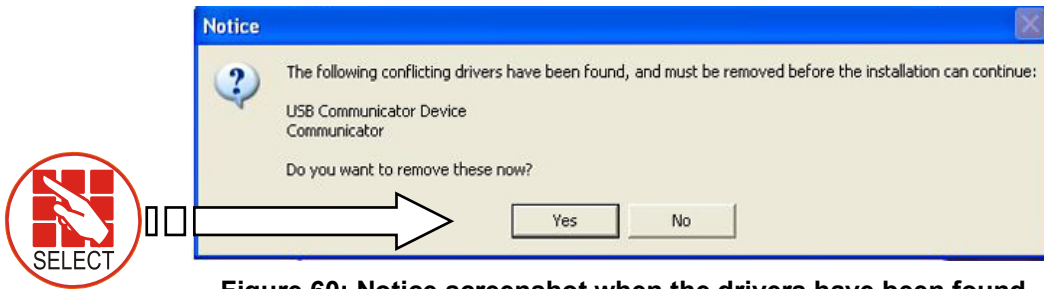

Figure 60: Notice screenshot when the drivers have been found
5. If the drivers have been found, **Figure 60** appears. The user is asked to remove the conflicting drivers before continuing, select **Yes**. If there are no previous drivers on the computer (New installation or new computer) then this step is not required.